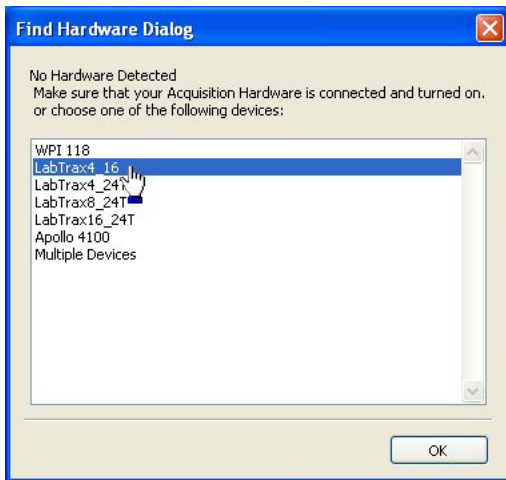

Fig. 35—Found Hardware dialog box
NOTE: if no hardware is connected to the computer when LabScribe is launched, the **Find Hardware** dialog box (Fig. 35) appears when LabScribe is launched. Select the appropriate hardware device and click the **OK** button. (For the TBR4100/1025, select **LabTrax4_16**.)
- Select the **Channel** tab at the top of the **Preferences Dialog** window. This tab allows for configuration of all channels (Fig. 35).